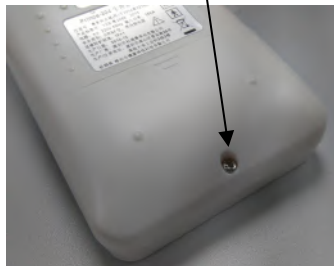

Figure 2.11
1. Unscrew the M3x6 screw from the battery compartment on the back of the Spot-Check Monitor, as shown in figure 2.11.